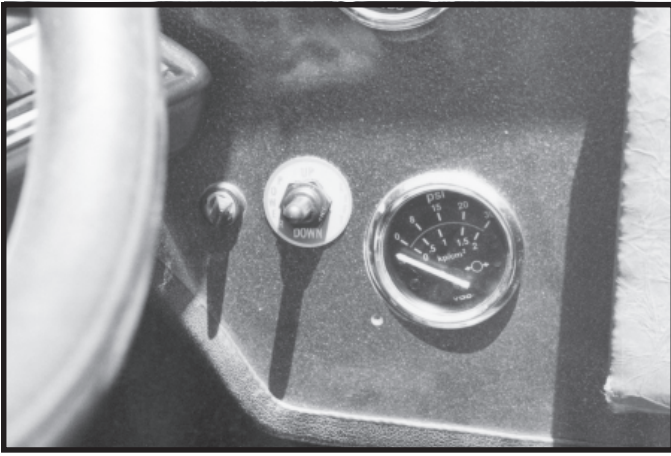

FIG. 17
Step 10: Push the toggle switch through the 1/2" hole that you previously drilled. Place the up-down switch plate and rubber boot with nut on the switch. (Fig. 17)